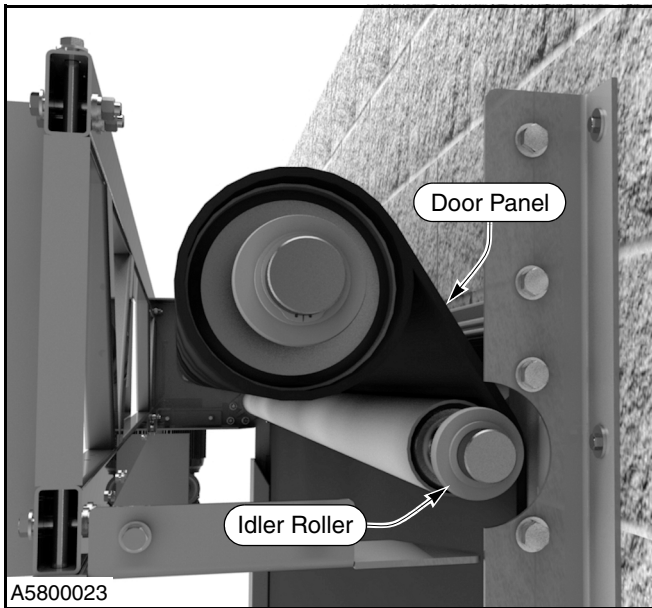

Figure 33
4. Gain access to the rear spreader by moving the door panel away from the wall. (See Figure 33.)